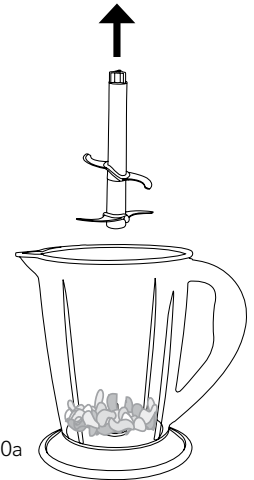

FIG. 10a
10. Remove the vortex 4 blade for blender from the blender jug as illustrated in Fig. 10a, and pour out the blended food.